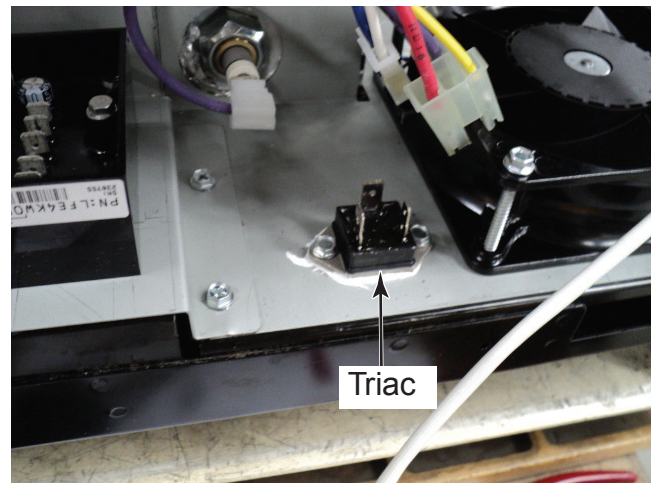

Figure 4
5. Disconnect wire connector from triac (Figure 4). **Note:** Connector is very hard to remove use small flat blade screwdriver to pry connector loose.